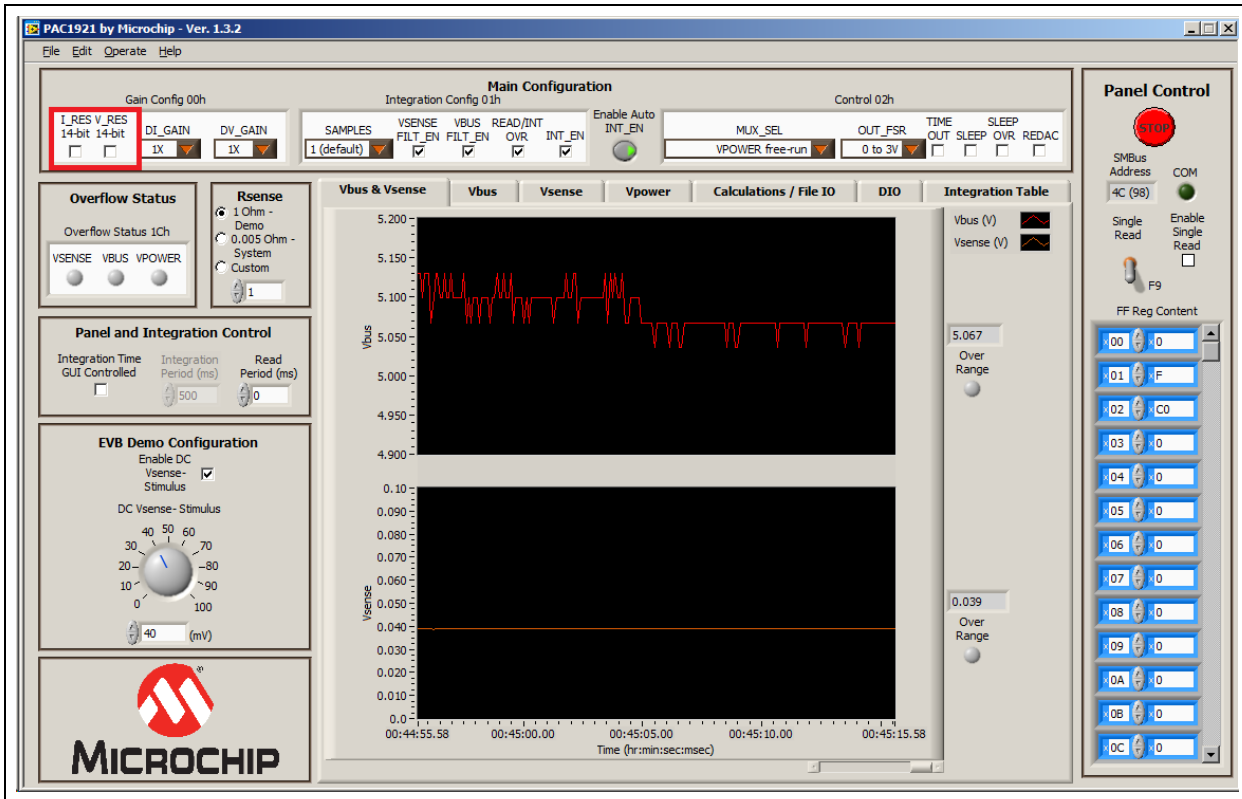

FIGURE 4-24: Free-Run Integration with 14-Bit Resolution.
7. Uncheck the "I_RES" and "V_RES" boxes to enable 14-bit resolution, and observe the improvement in the plots on the **Vbus & Vsense** tab, as shown in Figure 4-24.